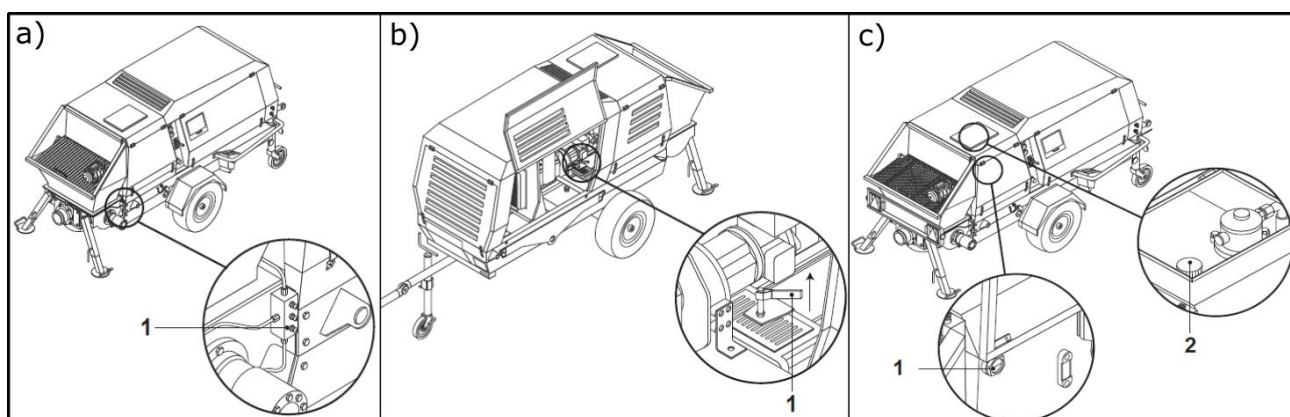

Figure 7: Daily maintenance.
The following controls are used daily while operating the concrete pump (Figure 7):
- ▶ Grease all lubricating nipples (figure 7 a). There are also nipples on the other side of the pump, and on the inside above the s-valve hydraulic pistons.
- ▶ Check lubrication water and refill if necessary (figure 7 b). Antifreeze can be added if needed.
- ▶ Check hydraulic oil levels and refill if necessary (figure 7 c). The oil type is specified in the manual.